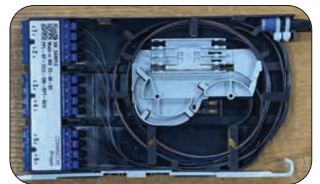

Figure 16
17. Insert spool into base and ensure all fibers are under retaining fingers. (Figure 16)